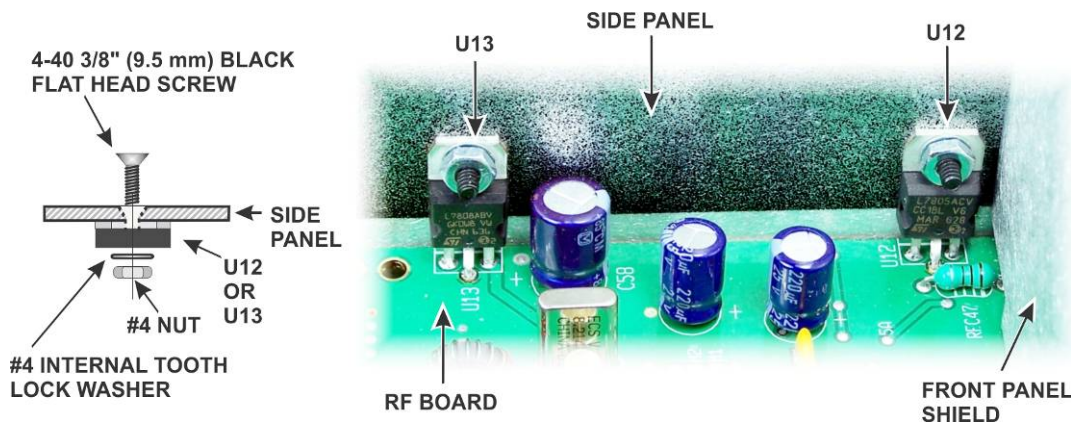

Figure 74. Attaching U12 and U13 to the Right Side Panel.
Attach voltage regulators U13 and U12 to the right side panel as shown in Figure 74 using a 4-40 3/8" (9.5 mm) black flat head screw (SS), #4 inside tooth lock washer and a #4 nut for each regulator as shown. When the screws are tightened the tabs on U12 and U13 should lie flat against the side panel.